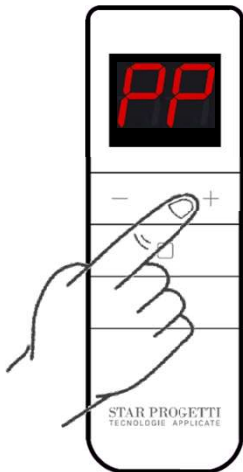

Fig.18
- By using the "+" and "-" buttons select channel PP Fig.18 and immediately after press and hold the  button as shown in Fig. 19